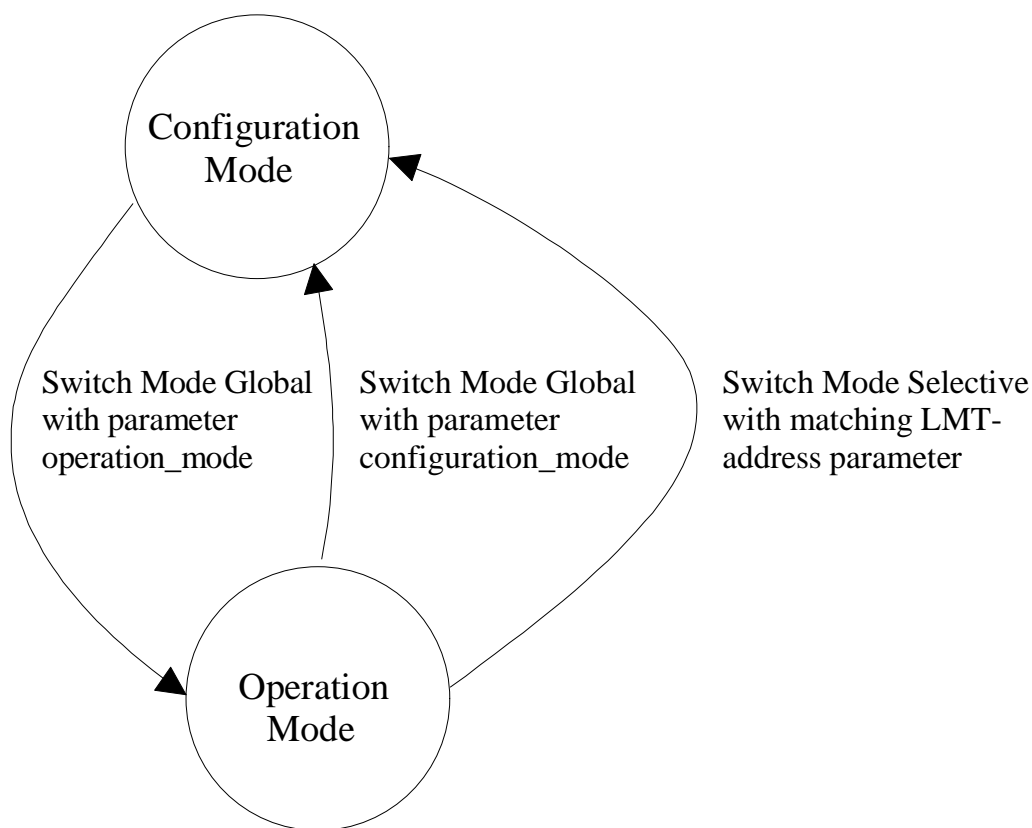

Fig. 2: LMT modes and switching procedure
- The switch mode services provide a way to logically connect the LMT Master and LMT Slave(s) for configuration purposes. They change the LMT mode attribute of the LMT Slave (see figure 2).